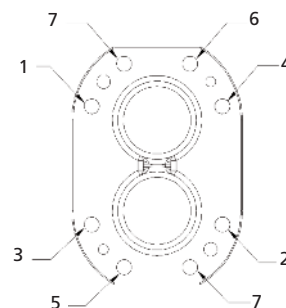

Figure 10. Bolt tightening sequence
- Slide the cover over the dowel pin and replace the screws. Alternate tightening screw from top to bottom and side to side (Check fig 10)